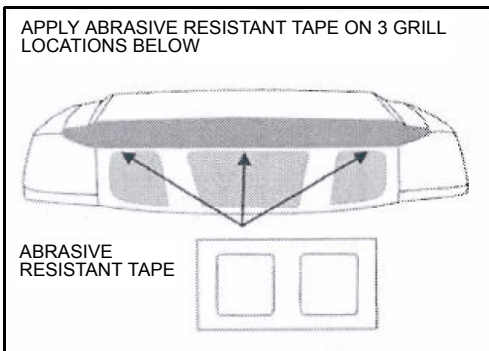

Figure 14. Abrasive resistant tape installation
14. Lower the hood. Note the area on top of the grille surround that sits directly below the three grille area clips. Clean these areas with the alcohol solution and let dry. Adhere the abrasive resistant tape to grille surround, directly under each clip location as indicated in Figure 14.